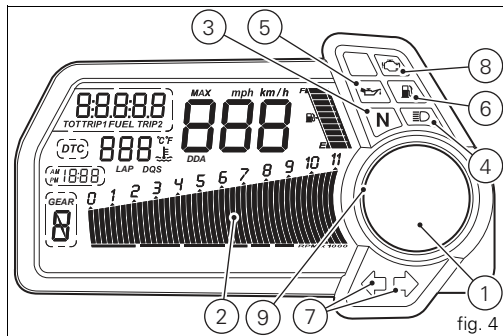

fig. 4
- 9) Limiter light “Over rev”/ traction control light “DTC” (RED) (fig. 4):